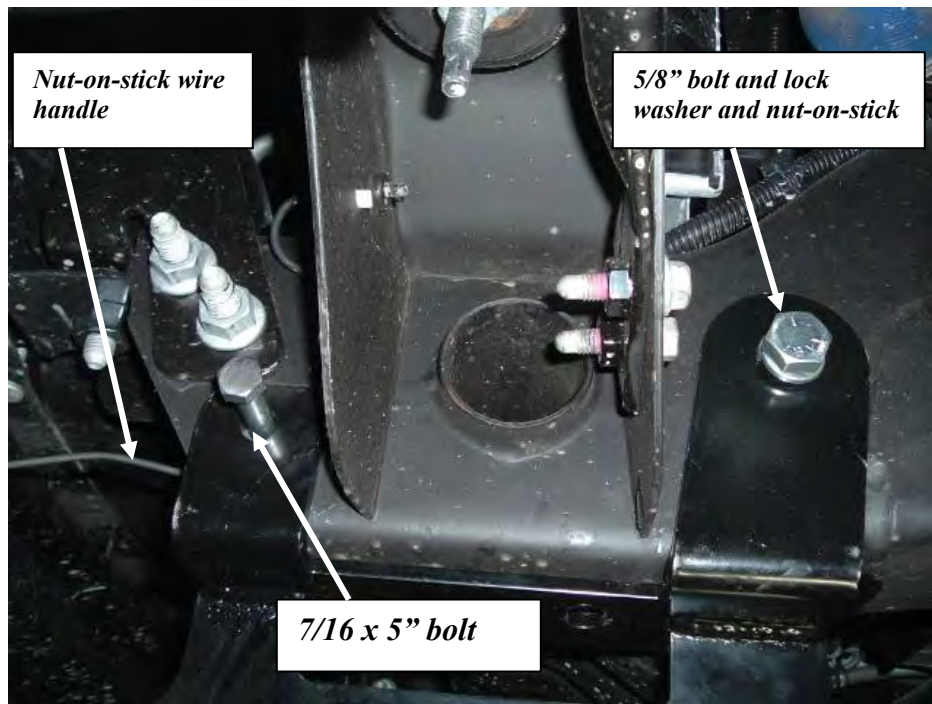

Figure 3 LH Bottom Bracket in place.
Note: it will be necessary to bend the wire attached to the nut to reach the slot. See Figure 3 and 4. Install a 5/8" bolt, lock washer and flat washer through the Frame Bracket and frame into the 5/8" nut. Trim excess wire or bend it out of the way. Do not tighten the bolts yet.
Remove the 7/16 x 5" bolts. Insert the LH and RH Frame Extensions into the frame. Reinstall the 7/16 x 5" bolt with flat washers (2ea), lock washers and nuts. Also install two (2) 1/2 x 1 3/4" bolts with lock washers and flat washers through the bottom of each Bottom Bracket and frame, into the nuts welded to the frame extensions. See Figure 3 and 4